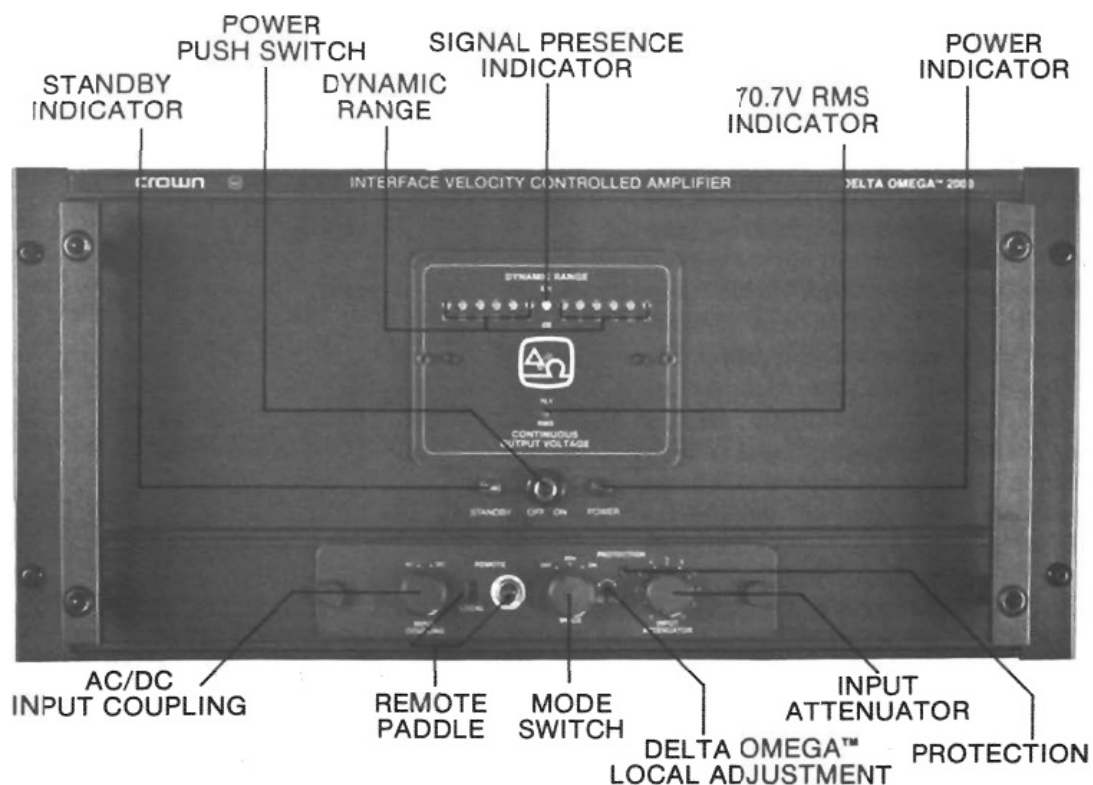

Fig. 3.9 Delta Omega™ 2000 Front View
3.6.1 Switches and Dials The AC power switch, mounted between the speaker and Power indicators (see Fig. 3.9), is of a mechanically indicating push-push type. If the AC power switch is engaged, the power indicator should be on, unless power is not connected or a fuse is blown.
The Input Coupling dial (Fig. 3.9) is used to select either AC or DC incoming signal. Select the proper position for proper operation. The Local switch is used to select either local or remote adjustment of the Delta Omega' 2000 with the speaker load. See subsection 3.7.1 for proper operation of this switch.
The Input Attenuator Controls are used to adjust the volume to the speaker load attached to this unit. The Mode switch (Fig. 3.9) is used to select the mode of operation for the unit. In the OFF position, the Delta Omega' 2000 operates as a regular voltage amplifier. In the ADJ (adjust) position, the match to the speaker load may be adjusted (see the Delta Omega- Power Efficiency Transfer Ratio Method). In the ON position, the unit is in a high power interface velocity controlled amplifier
The Dynamic range display section at the front of the unit (see Fig. 3.9) contains twelve amber and one yellow LED lamp for monitoring an input signal. The yellow SPI (signal presence indicator) lamp indicates the presence of an input signal. The twelve amber db (decible) lamps are in six pairs and labeled 6, 9, 12, 15, 20 and 25 db. These are used for determining the dynamic range of the input signal. As variations occur in the amplitude of the incoming signal, these amber lamps will display the peak amplitude of the signal and compare it to the average amplitude. The amber STANDBY lamp indicates the unit is in Standby mode. In this state, the high voltage power supply is deactivated and the instrument is inoperable. This can occur if the unit overheats, is in the normal turn-on delay of four to five seconds (DELAY switch enabled), if low-frequency outputs are sensed (L.F. PROTECT switch enabled) or if the line voltage is high. Once the cause of the Standby is corrected, the unit should return to full operation. 70.7 VRMS green LED on the display indicates that the output voltage of the amplifier has reached this RMS level. The red PROTECT lamp indicates a dangerously high output power condition has been entered by the operator. This may be encountered particularly during the Delta Omega' Power Efficiency Transfer Ratio Method. See subsection 3.7.1 for more information regarding this condition.
5. Using a small screwdriver or a small trimpot adjustment tool (available at most retail electronic stores), adjust the Delta Omega' control pot (see Fig. 3.9_ for 'ovation) for the desired speaker matching characteristics. Clockwise rotation increases the load power transfer efficiency, counterclockwise decreases it. This method essentially uses the human ear as a test instrument, a very fine one indeed. As the operator turns the control in the clockwise position, the music signal will suddenly appear to come 3lit of tht loudspeake™. The kick drum will have more punch, more front to back depth. Even with mom source material it will be immediately apparent. The mid-range will become more articulate. As this control is advanced past the point of maximum coupling efficiency, the signal will begin to ring and eventually go into oscillation. As long as the control is in the ADJUST position this oscillation will not harm the transducer. Once this ringing is audible, carefully back off the control to the point where again the sound becomes clean. What we're hearing is the increase in the power efficiency transfer from amplifier to transducer. Warning: Adjusting the Delta Omega' potenti-ometer to give too high an efficiency transfer may produce a tone bunt out of the speakers attached to this unit. High-energy is only available when the mode switch is in the ON position. The energy PROTECT system, indicated by the red LED labeled PROTECT on the front panel, will illuminate when this level is present and afford some measure of protection for loudspeaker transducers. Never change the load impedance by either adding or removing speaker loads when the unit is in the ADJUST or ON mode.